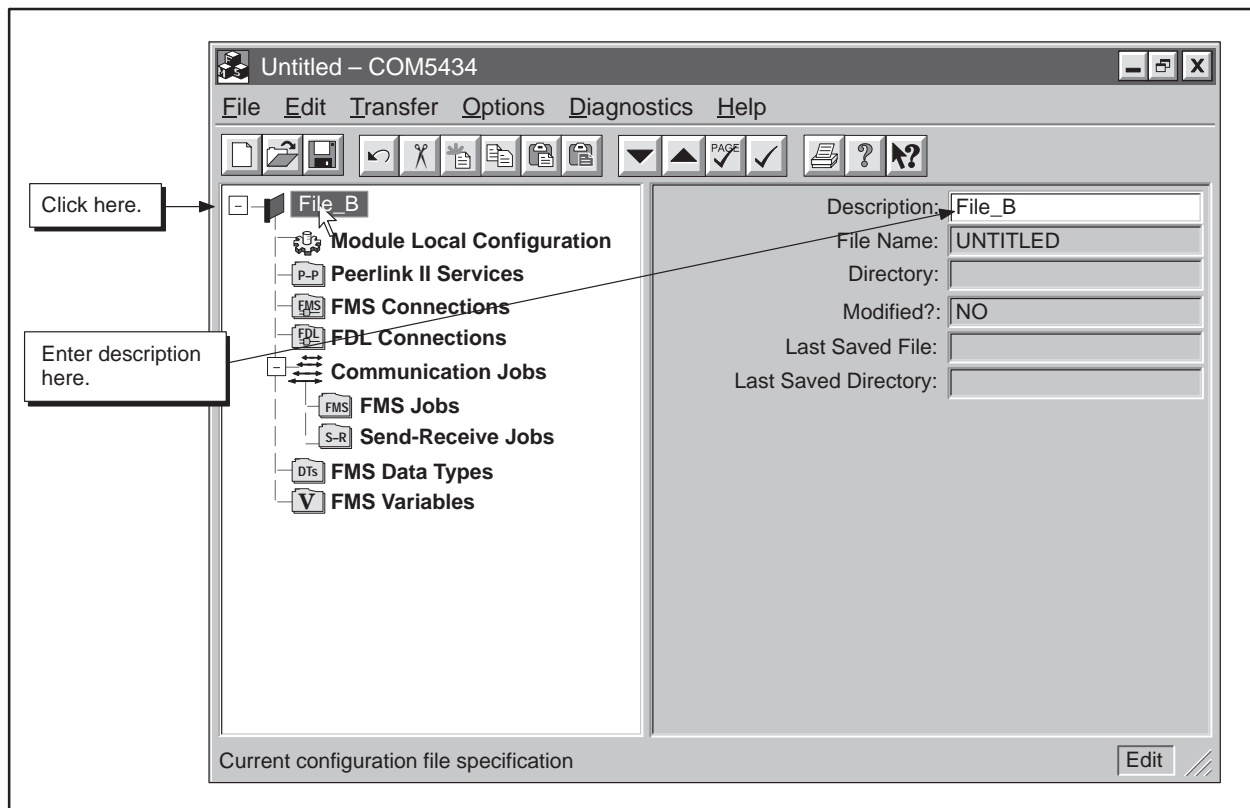

Figure 6-12 Creating a Configuration File
2. Enter a description for this file in the Description field, as shown below (and in Figure 6-12):